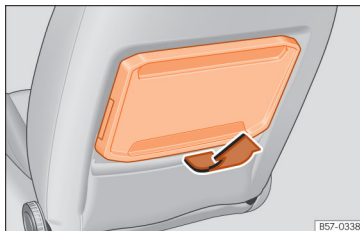

Fig. 4 Front left seat: folding table.
- Pull the table up, in the direction of the arrow, until it catches » **Fig. 4**.